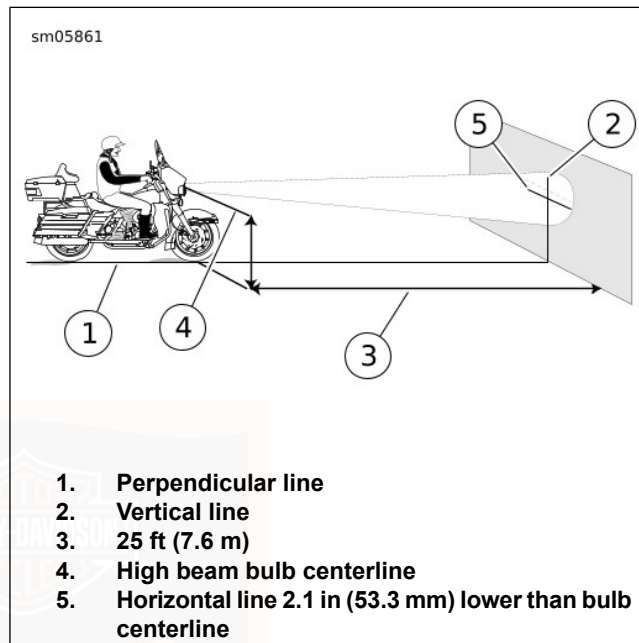

Figure 63. Check Headlamp Alignment
See Figure 63. To aid in properly placing the motorcycle, a perpendicular line (1) can be drawn on the floor. For best results, choose an area with minimum light.
3. Draw a vertical line (2) on the wall.
2. Adjust the light beam until it is centered as shown in Figure 63.